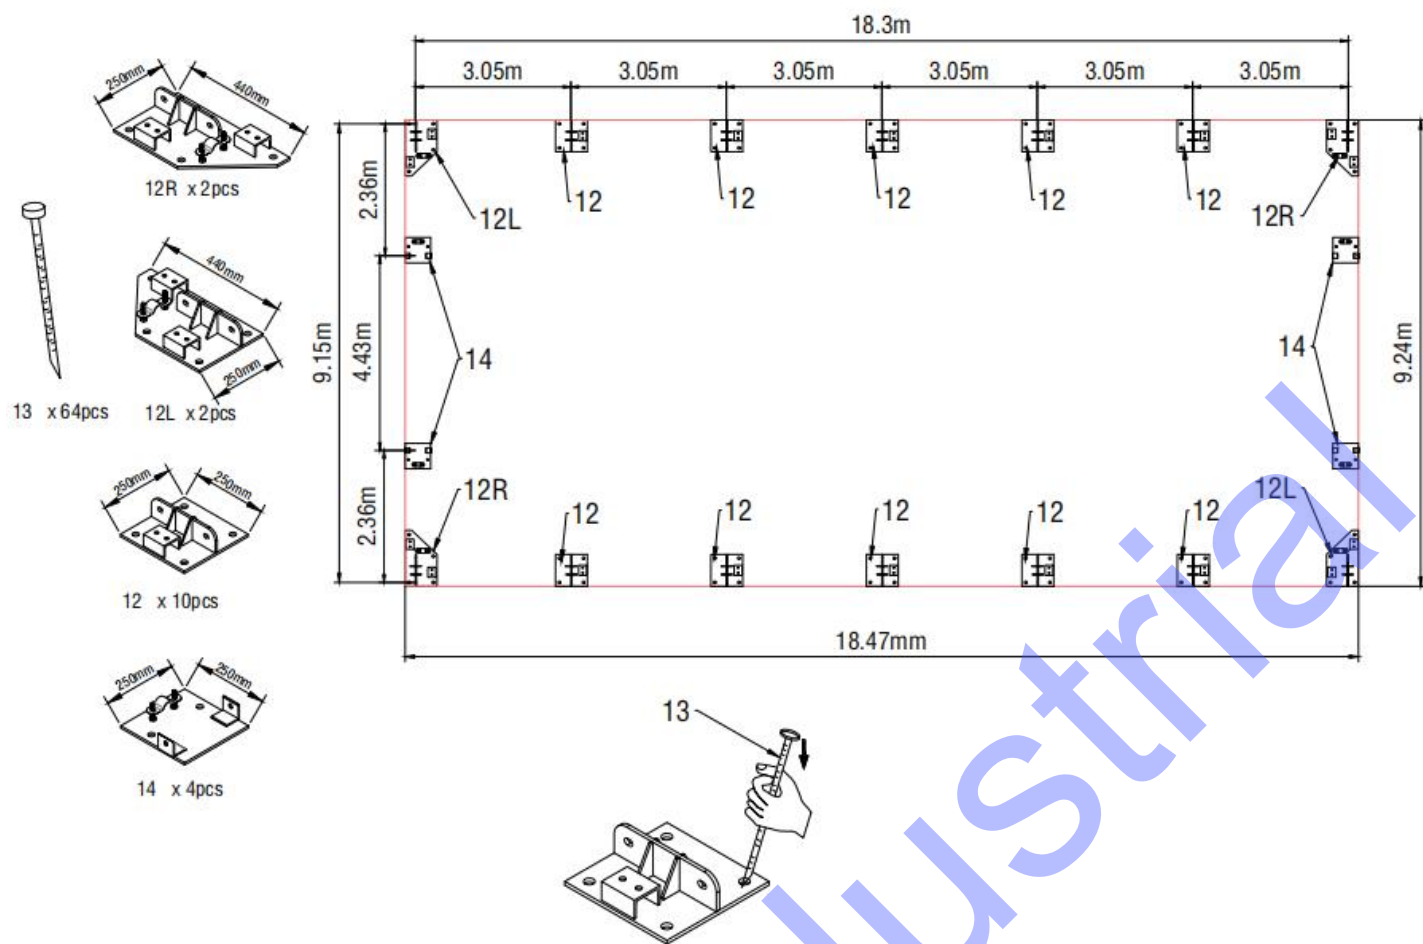

Figure 1
2. Please refer to the diagram (Figure 1) to place the base plates.
3. As Figure 1 shows each Base plate is equipped with 4 pieces of Stake pegs.(No.13) or Expand screw